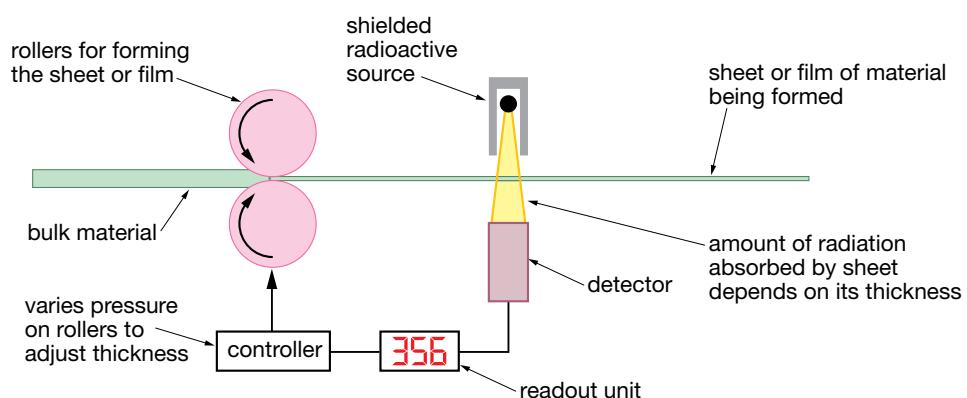

FIGURE 3.8
- 1 Thickness gauges.** A radioactive source and a detector arranged as in Figure 3.8 can be used to monitor and control the thickness of materials such as steel sheets, paper, aluminium foil and plastic film in factories. With fixed geometry for the source and detector and the same material passing between them, the amount of radiation received by the detector depends upon the thickness of the material: thicker material absorbs more radiation and so the signal drops. This can be built into a feed-back loop to control the manufacturing process.